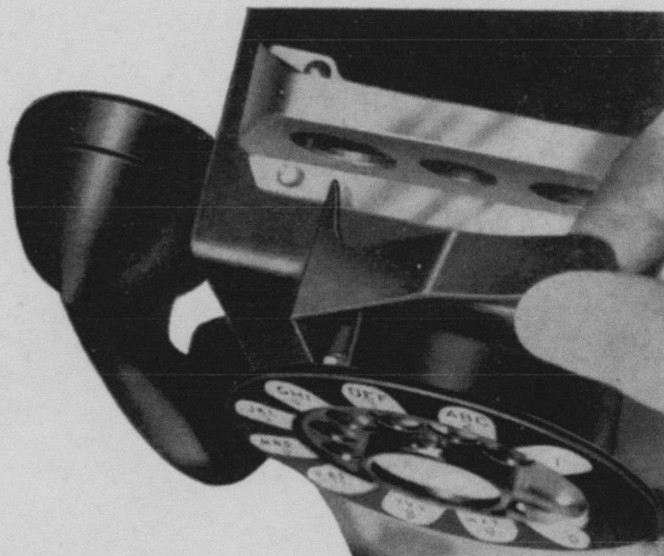
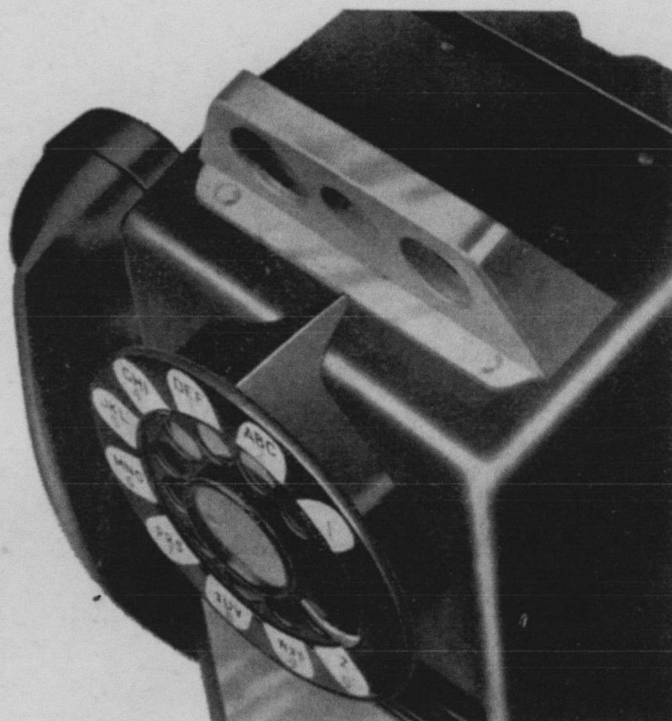

Fig. 19—Installing P-14A544 Coin Deflector
Fig. 20—P-14A544 Coin Deflector
4.15 Fig. 19 shows the deflector being installed, and Fig. 20 shows it in place.